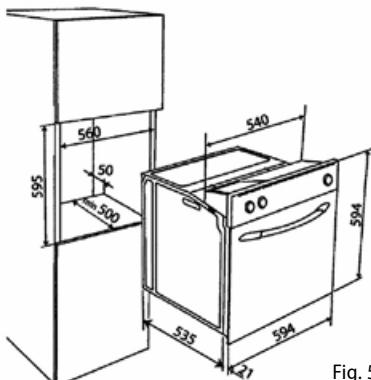

Fig. 5a
- For the required built-in box dimensions see Fig. 5a, 5b. For the sake of efficient air circulation the unit has to be located according to the dimensions on the pictures and the design of the cabinet must enable air flow into its bottom part. The gap behind the rear wall of the built-in oven must be at least 50 mm.